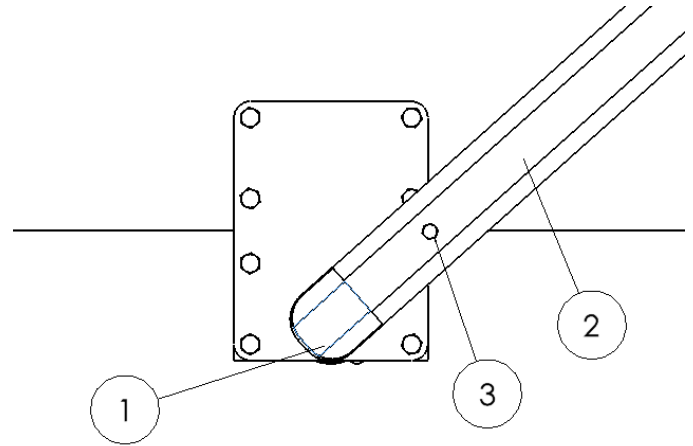

Figure 3.10
With the pivot casting (1) pointing to the rear of the dump box, slide the side arm (2) on to the pivot casting and secure it using the supplied 1/4" x 2-1/4" hex bolt (3) and hex nut. (Figure 3.10)